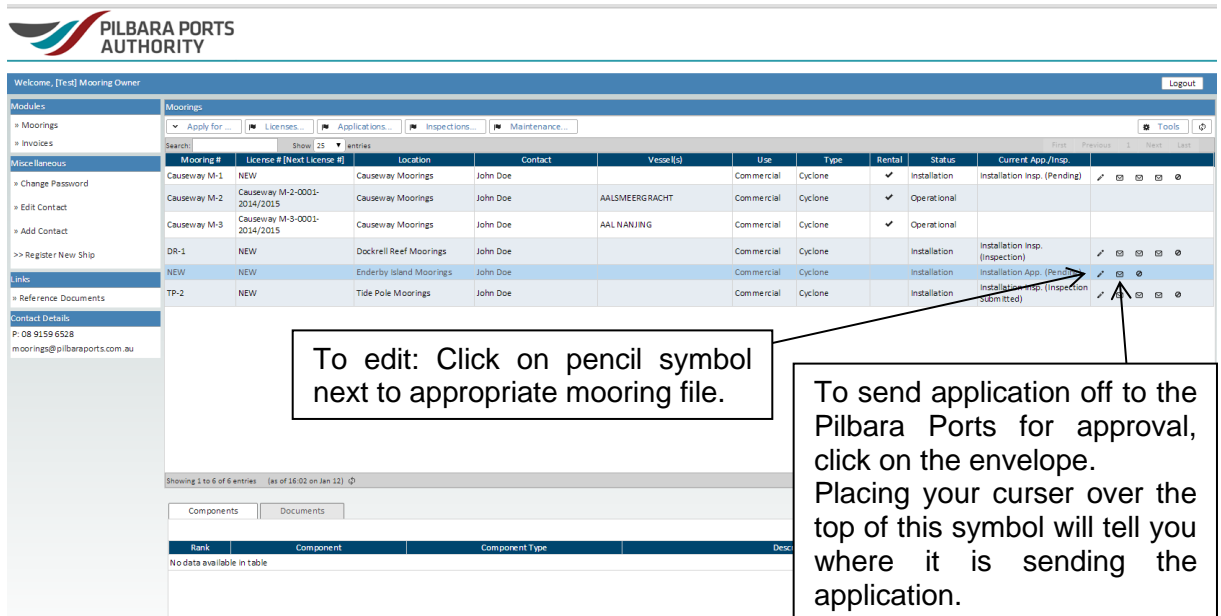

Figure 4.2
- 'Execute' will save your application. To edit your application on the main page, click on the pencil symbol to the right of the file, see figure 4.2 below.
- Once your application is complete and you have uploaded your drawing, send to Pilbara Ports for approval. Select the third envelope  on your main screen (refer to figure 4.2)